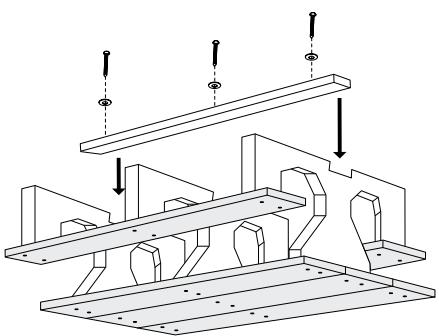

Figure 5
6. Attach base support board into the indent in the plastic base bottom using the 3½" lag screws, washer, power drill and 7/16" socket bit. (See Figure 5)